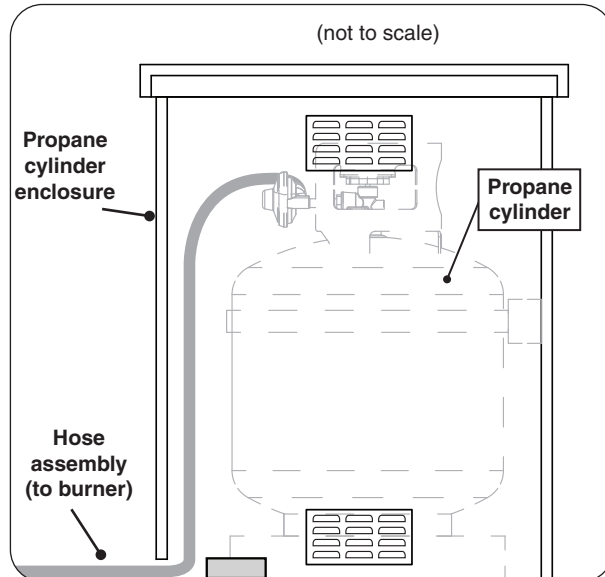

Fig. 35-3 L.P. Cylinder placement
3. The propane cylinder (not included) is to be located inside the separate propane cylinder enclosure (see Fig. 35-3).